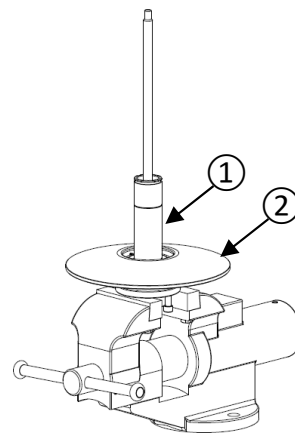

Figure 30
- Install the shaft assembly ① and the fixed sheave ② on the disassembly tool (figure 30).